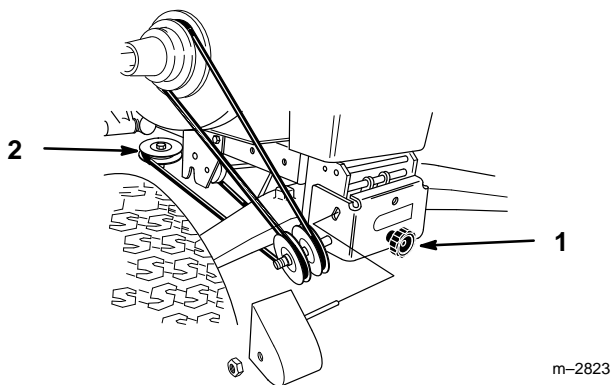

Figure 12
3. Turn knob on idler assembly clockwise to loosen belt. Remove belt from upper mower pulley (Fig. 12).